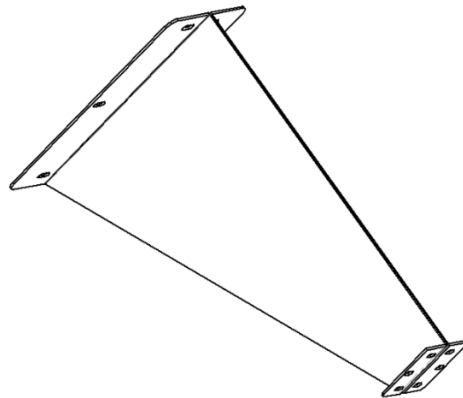
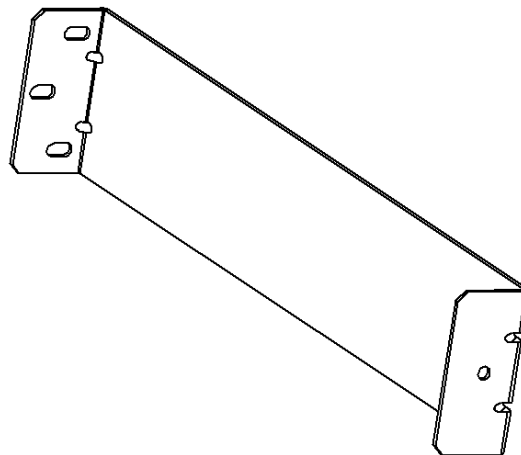

Figure 1 HEADER PROJECTION BRACKETS (LH & RH-SHOWN)
Figure 2 TRACK PROJECTION BRACKETS (8 REQ'D)
1. Find the package of Projection Mount Brackets, and a bag with screws, nuts and Velcro strips. (Figure 1 HEADER PROJECTION BRACKETS (LH & RH-SHOWN) & Figure 2 TRACK PROJECTION BRACKETS (8 REQ'D))